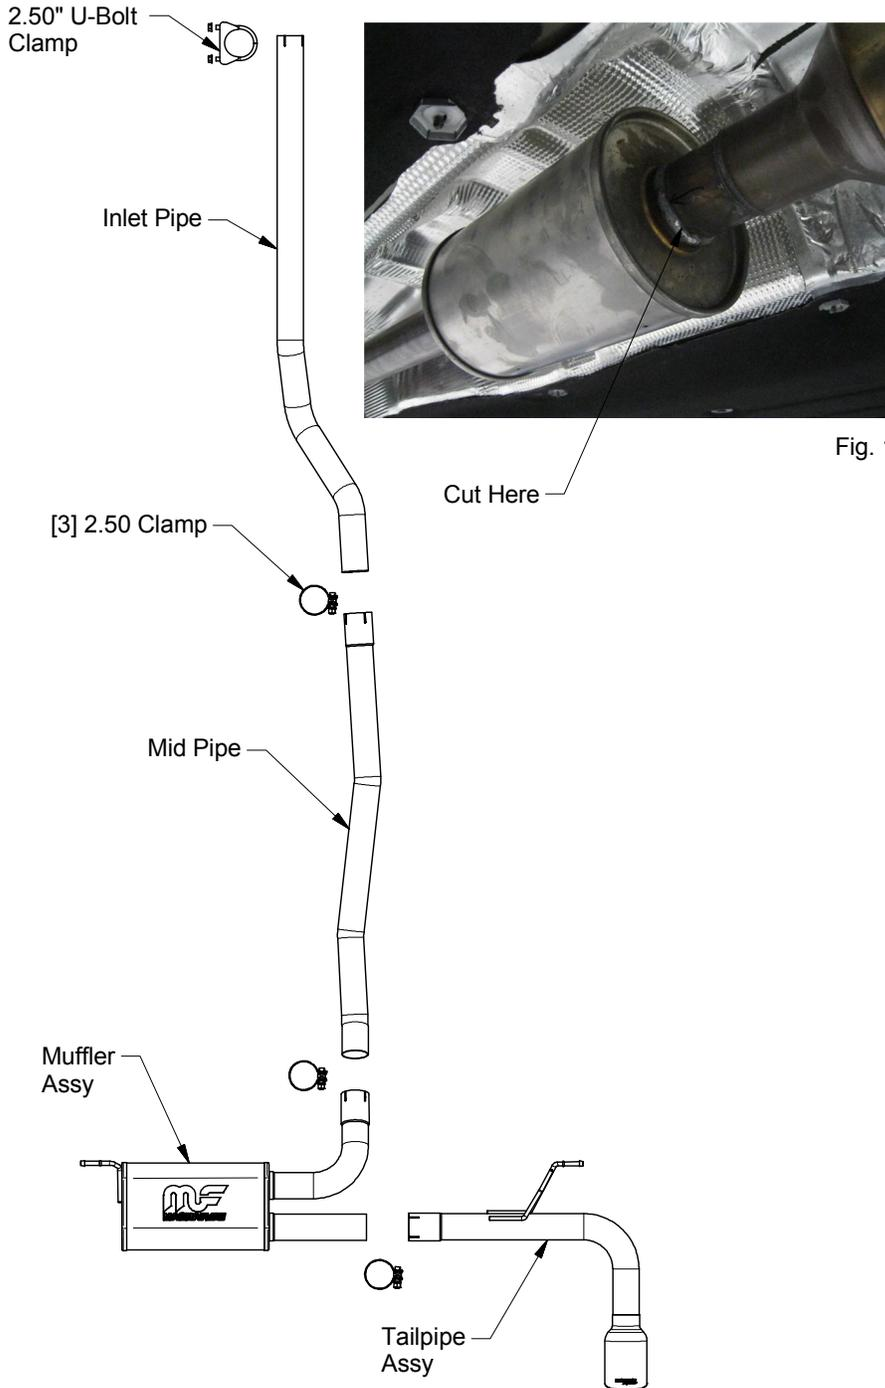

Fig. 1
**Step 1:** Carefully read all instructions before installation) Begin removal of your OEM exhaust system by cutting the existing exhaust at the weld point just in front of the OEM resonator. Fig.1 (The OEM resonator is removed in this application). Remove all welded hangers from the rubber insulators (retain OEM rubber insulators) and remove the exhaust.